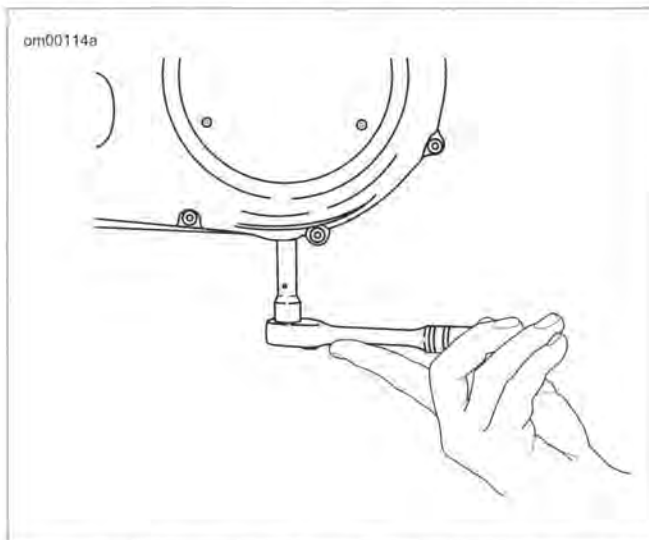

Figure 1-13. Removal/Installation of Chaincase Drain Plug
3. See Figure 1-13. Drain primary chaincase.